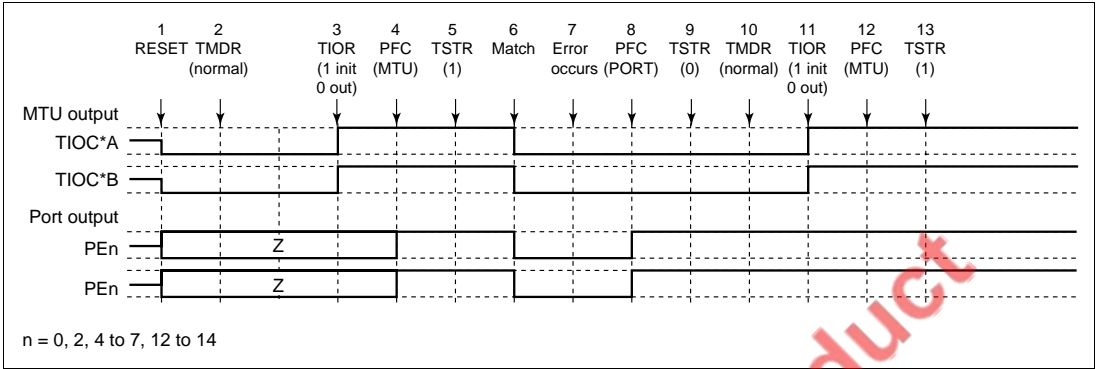

Figure 8.49 Error Occurrence in Normal Mode, Recovery in Normal Mode
(1) Operation when Error Occurs during Normal Mode Operation, and Operation is Restarted in Normal Mode: Figure 8.49 shows an explanatory diagram of the case where an error occurs in normal mode and operation is restarted in normal mode after re-setting.
1 to 9 are the same as in figure 8.49.